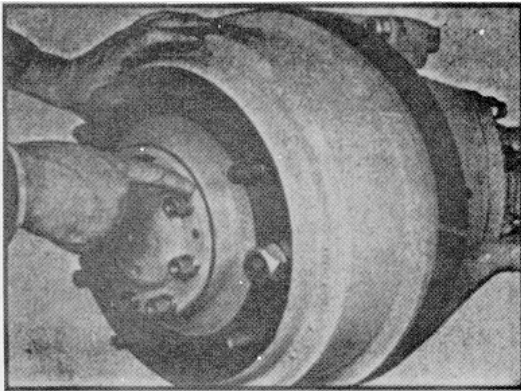

Fig. 40
5. Push axially on the outer drive yoke and check for positive clearance under the axle shaft flange. The clearance should be at least .015-inch. (See fig. 40).